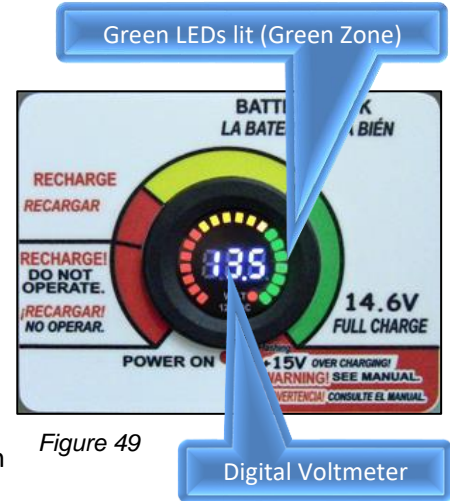

Figure 49
2. The red Emergency Stop (E-Stop) button must be pulled out to charge the battery. The on-off circuit breaker switch must be in the up position to observe the voltage reading on the Digital Voltmeter, located on the side of the electrical control box (Figure 49).
3. When performing a charge, the green LEDs should be lit (Green Zone) to indicate that the charge is 13.5V DC to 14.6V DC and charging voltage is being delivered from the battery charger to the battery (Fig. 49). Note that if the extension cord is unplugged, and 120V 60 Hz is no longer supplied to the charger, the volts indicated on the Digital Voltmeter and corresponding LEDs may drop. This is a normal condition, in which case make sure that the volts indicated on the Digital Voltmeter is 13.5 V DC or above.